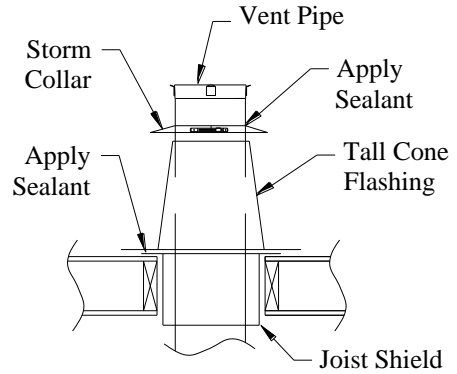

Fig 17A. (Tall Cone Flashing Directly on Flat Roof)
The Tall Cone Flashing is for vertical terminations through a flat roof. Note: For combustible roofs a Joist Shield must be installed prior to installing the Flashing (See Fig. 17A).
5. Install Vent pipe through the Tall Cone. Refer to corresponding section for instructions on installing the Storm Collar and Rain Cap (See Fig. 17A).
2. Depending on the type of storm collar you have, tighten the worm gear or the bolts on the tab to secure the Storm Collar to the vent. Apply silicone sealant over the joint between the vent pipe and the Storm Collar (see Figs. 17A, 17B & 18).